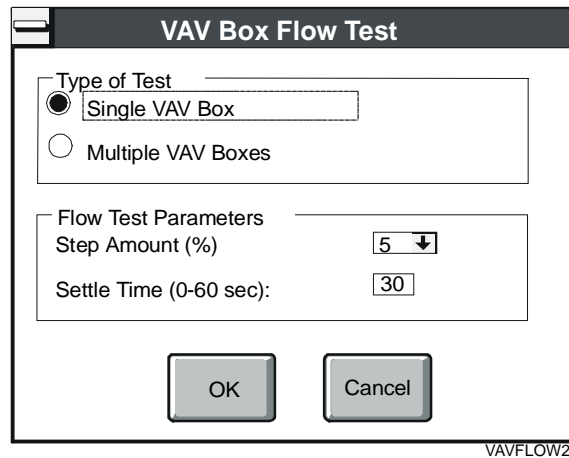

Figure 16-17: OWS - VAV Box Flow Test Dialog Box
1. On the Action menu, click VAV Box Flow Test. The VAV Box Flow Test dialog box appears (Figure 16-17).